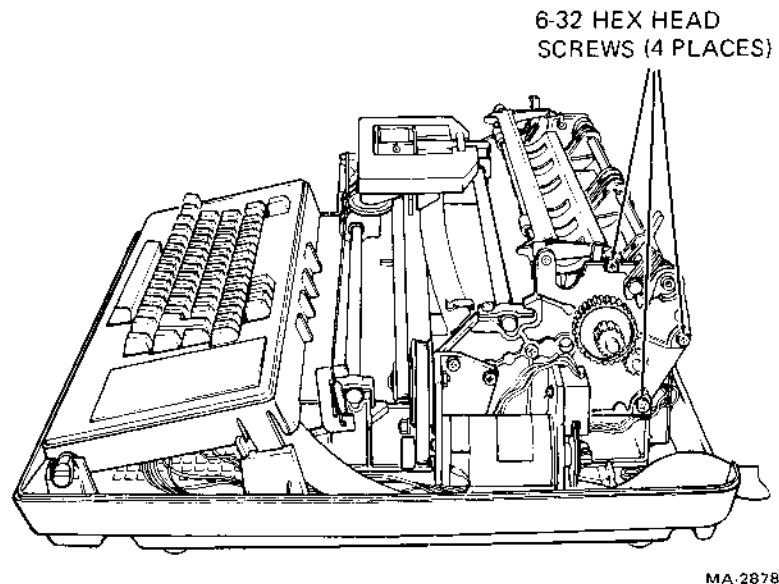

Figure 7-15 Stepper Motor Removal
7. Remove the four (6-32) hex-head screws that secure the stepper motor to the right side plate (Figure 7-15).